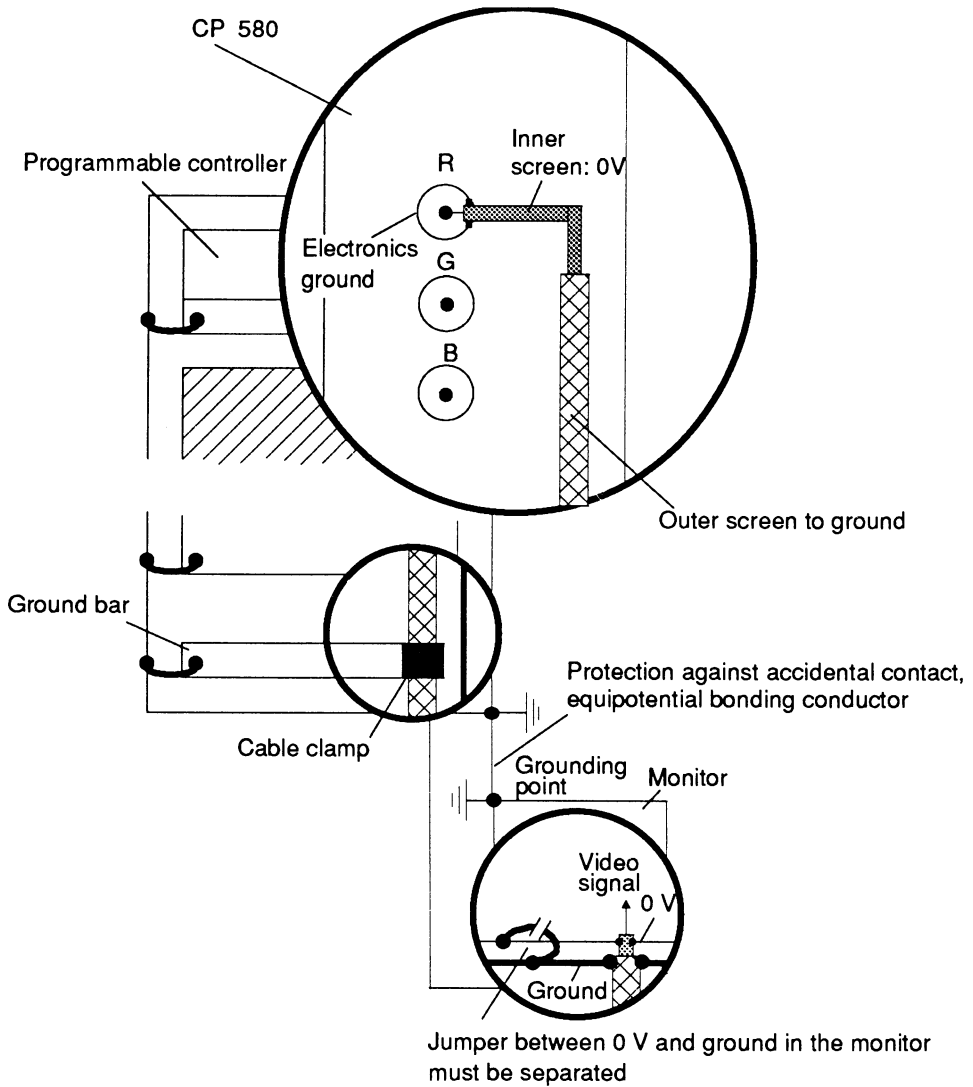

Fig. 2.8 Cable connection to grounding rails
- When using triax cables, only connect the outer screen of the monitor cable to the housing potential of the process monitor (see Fig. 2.8).
- Isolate the electronics ground of the monitor (see Fig. 2.8) from the housing ground. The separation has already been made in the Siemens multistandard color monitor 6AV1414-0AA00 listed in Chapter 14.